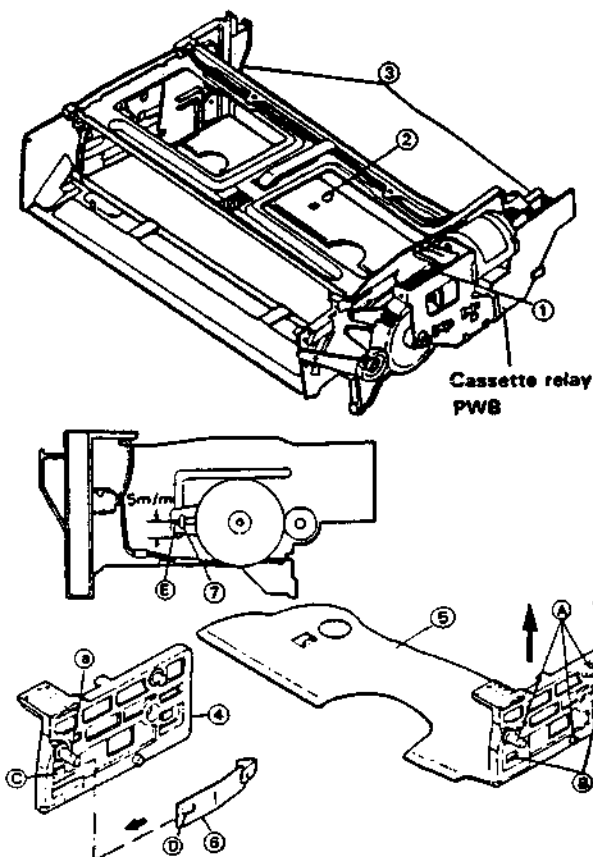

Figure 1-4.
• **Disassembly (Fig. 1-4)**
1. Turn the worm gear (1) by hand counterclockwise until the cassette slider assembly (2) reaches the bottom position.
2. Slightly extend the right and left frames (3) to allow the tabs (A) of the cassette slider assembly (2) to go out of the holes of the right and left frames.
3. Pushing the tabs (B) of the slider holder (right) (4), pull the slider holder (right) out of the cassette slider (5).
4. Remove the lock release lever (6) from the slider holder (right).
• **Reassembly (Fig. 1-4)**
1. Put the lock release lever (6) to the slider holder (right) (4): check that the tab (C) of the slider holder (right) is surely engaged with the hole (D) of the lock release lever.
2. Move the lock release lever so that it is positioned inside the tab of the cassette slider (5).
3. Extend the right and left frames and let the right and left tabs (A) of the cassette slider assembly be engaged with the grooves of the right and left frames.